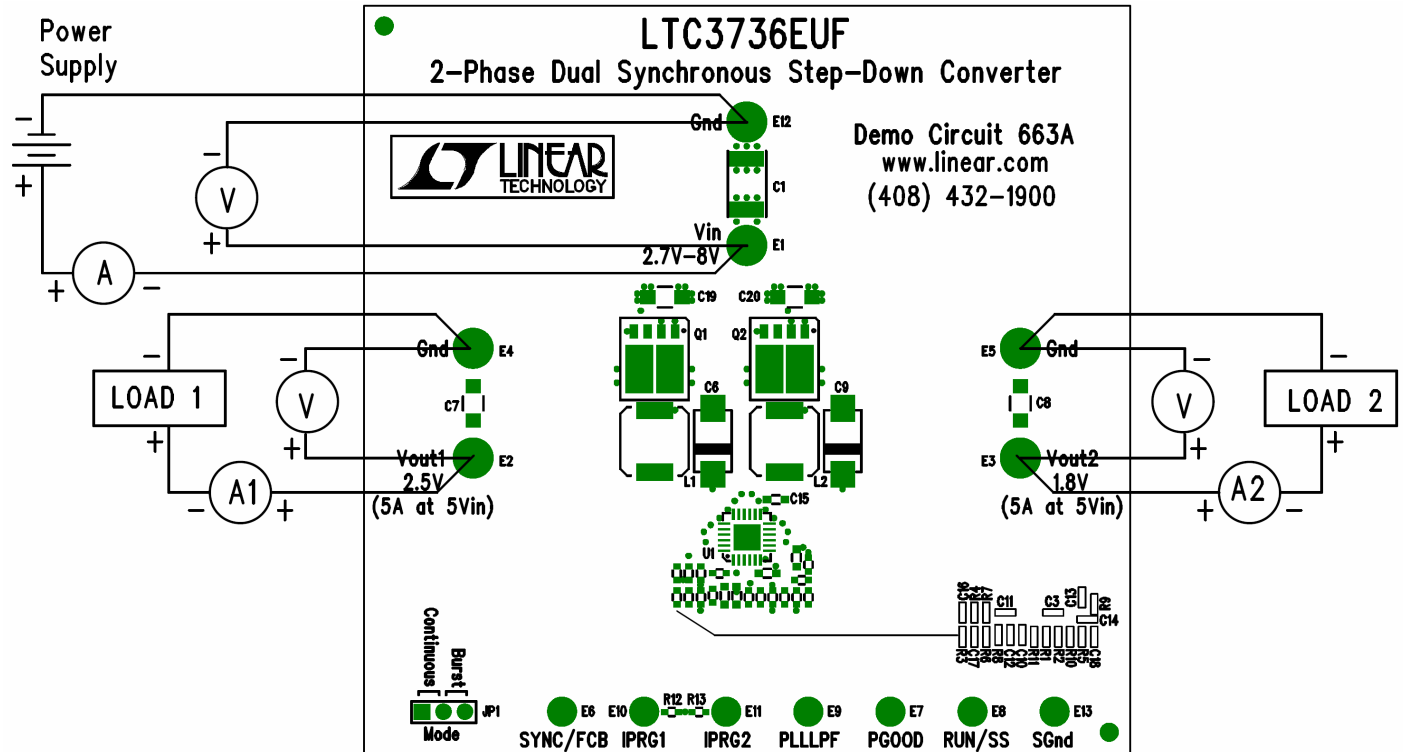

Figure 1. Proper Measurement Equipment Setup
Demonstration circuit 663 is easy to set up to evaluate the performance of the LTC3736. Refer to Figure 1. for proper measurement equipment setup and follow the procedure below:
2. Connect the 2.5V load (Load 1 in Figure 1.) between Vout1 and GND; connect the 1.8V load (Load 2 in Figure 1.) between Vout2 and GND. (Initial loads: no load.)